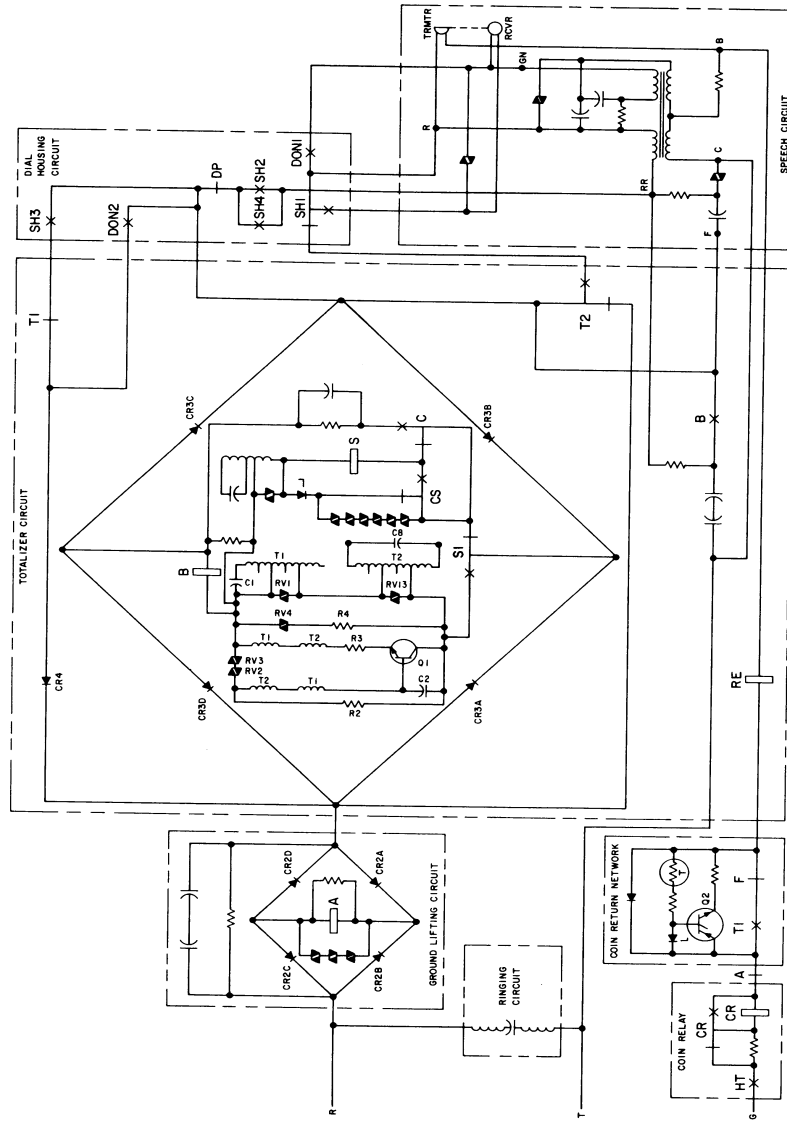

Fig. 9—1C1/2C1 Coin Telephone Set—Schematic (DTF Mode)
**Other Component Circuits (Fig. 9 through 12)**
2.21 **Ground Lifting Circuit (Used in DTF only) (Fig. 9 and 10).**
2.22 **Coin Return Network (Used in DTF only) (Fig. 9 and 10).**
### DIAL-TONE-FIRST SERVICE (Fig. 9 and 10)